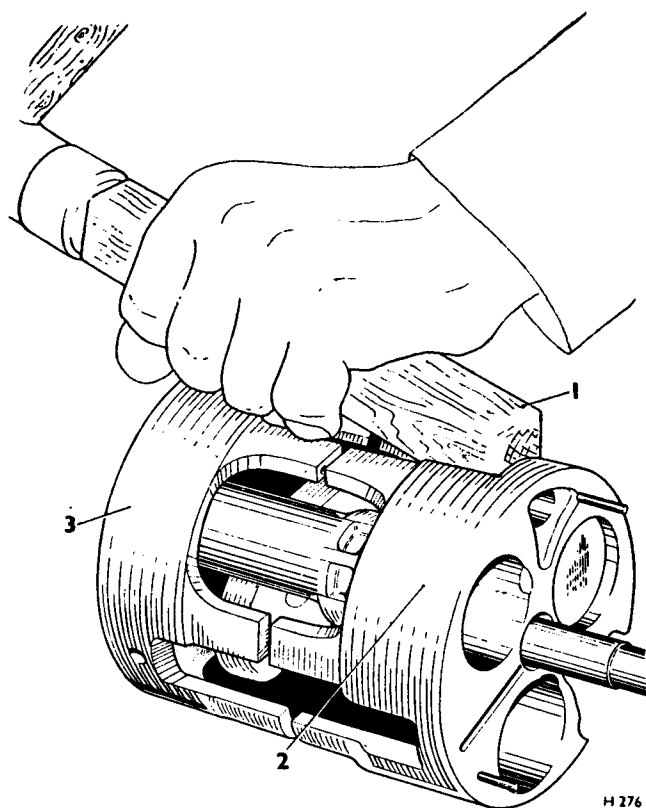

FIG. C21 SEPARATING THE CYLINDER HALVES
2. Using a wooden block and mallet separate the cylinder halves (*see Fig. C21*), taking care that the discharge cross-over tube does not foul the swash plate.